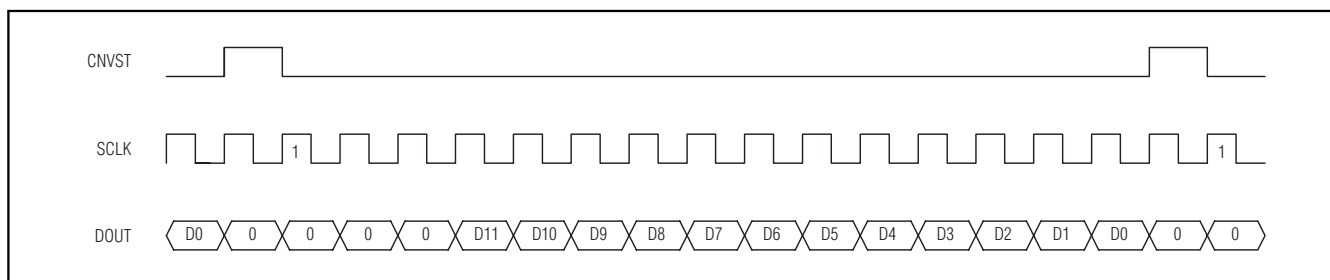

Figure 17. DSP Interface—Continuous Conversion
The MAX1276/MAX1278 can also be connected to the TMS320C54\_ by using the data transmit (DX) pin to drive CNVST and the CLKX generated internally to drive SCLK. A pullup resistor is required on the CNVST signal to keep it high when DX goes high impedance and 0001hex should be written to the DXR continuously for continuous conversions. The power-down modes may be entered by writing 00FFhex to the DXR (see Figures 17 and 18).
and for an active-low frame (LTFS = 1, LRFS = 1) signal. This is also the best way to enter the power-down modes by setting the word length to 8 bits (SLEN = 1001). Connect the VL pin to the ADSP21\_ \_ \_ supply voltage when the MAX1276/MAX1278 are operating with a supply voltage higher than the DSP supply voltage (see Figures 17 and 18).